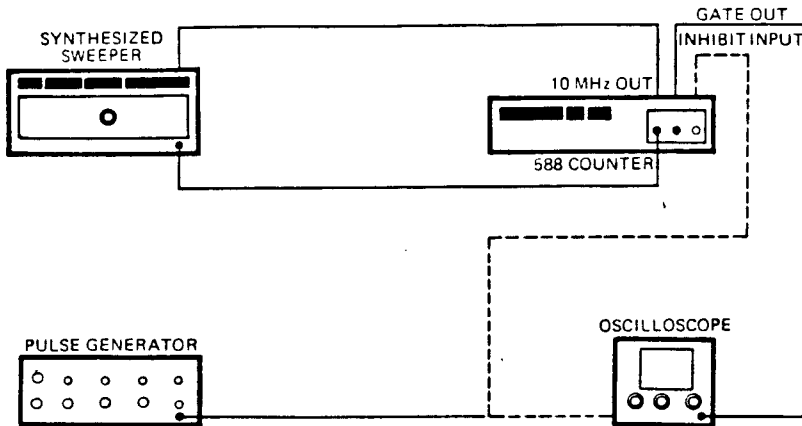

Figure 4-21. Band 1 Averaging Jitter Test Setup
1. Connect equipment as shown in Figure 4-21.